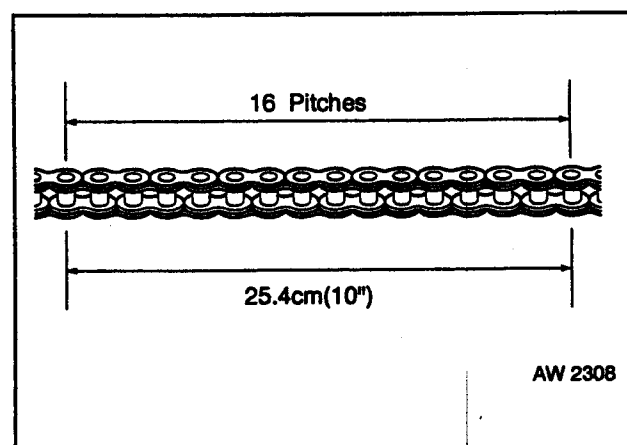

Fig 11.10 Chain Wear Measurement
- b. The length of 16 pitches of a new chain is 25.4 cm (10"). If the chain has stretched to more than 25.9 cm (10 $\frac{1}{8}$ ") for 16 pitches, it should be replaced. (Fig 11.10 refers).